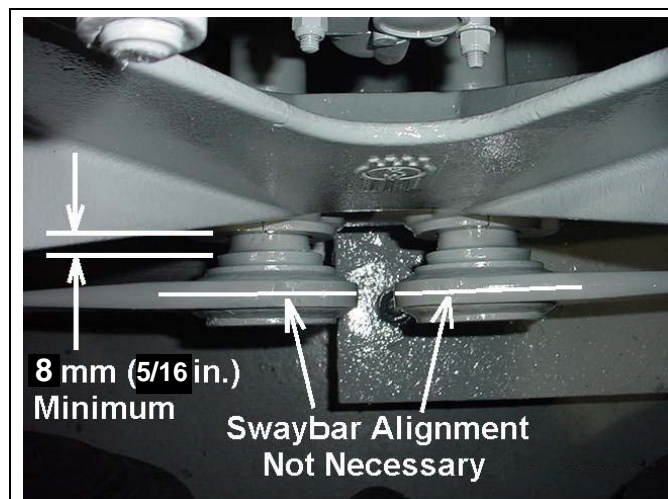

Figure 17-35
25. Ensure that the clearance between the swaybar end to the frame bracket is no less than 8mm (5/16 in.). See Figure 17-35.